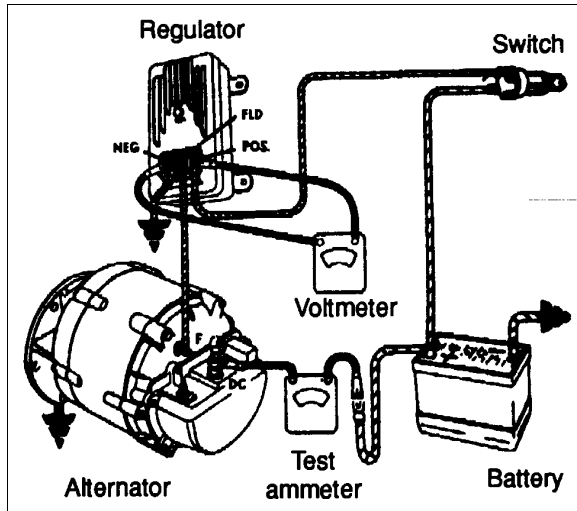

FIGURE 32: REGULATOR VOLTAGE TEST 06078
1. To check the voltage setting, connect a voltmeter across the "POS" and "NEG" terminals on the regulator, and an ammeter to the "DC" terminal on the alternator. Refer to figure 32.